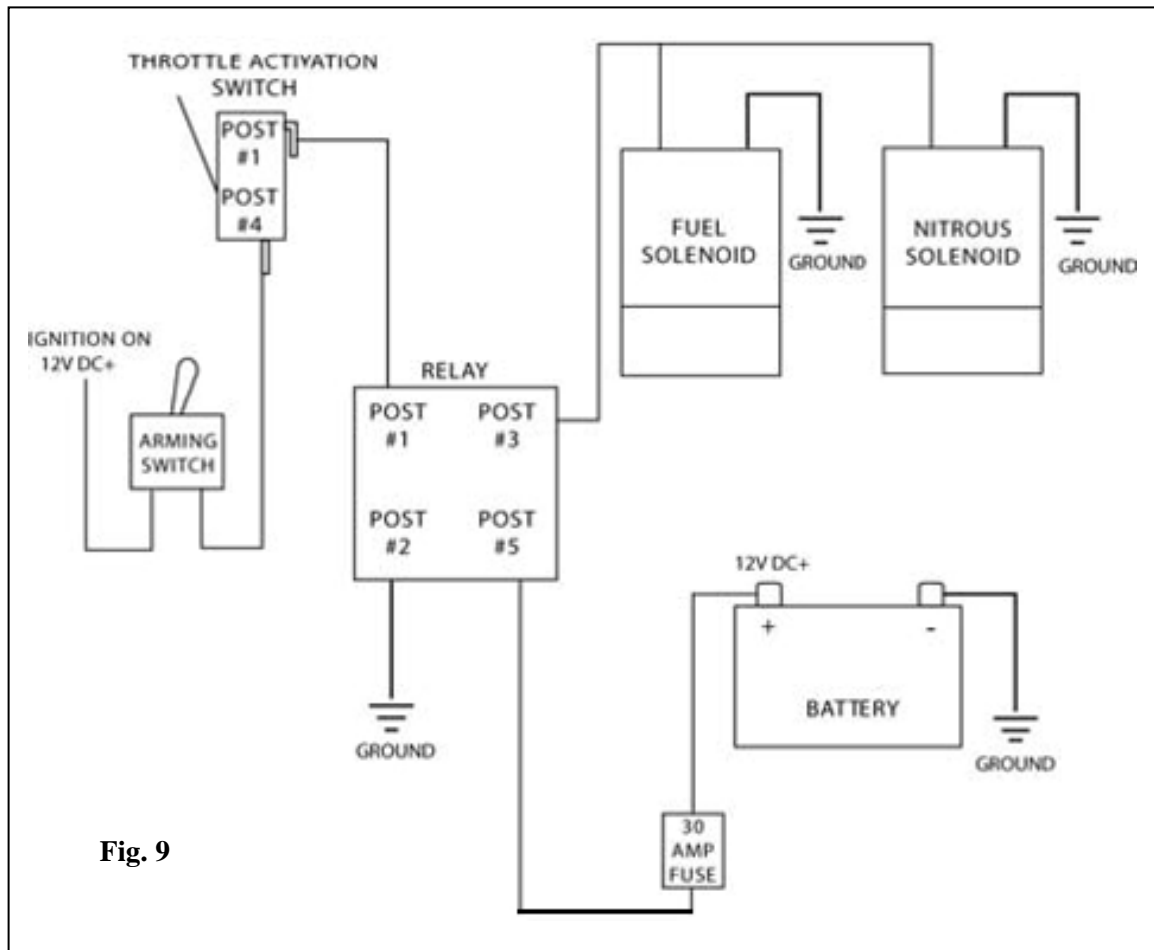

Fig. 9
- D.** Using the supplied electrical connectors and wire, refer to the wiring diagram for proper routing and electrical connections for the nitrous system (see Fig. 9). Always use the